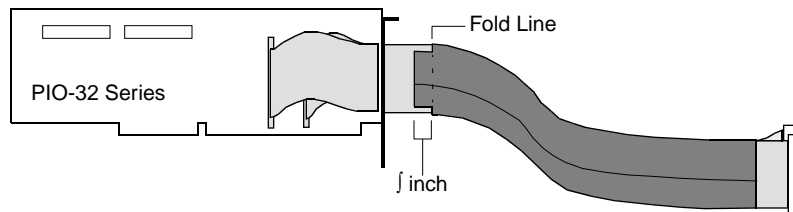

Figure 4. Jacket Trimmed with Scissors to Make $\frac{1}{2}$ -Inch Flaps
5. Remove tape from cabling, and use scissors to cut $\frac{1}{2}$ -inch flaps in the jacket on both sides of cable, as shown in Figure 4.